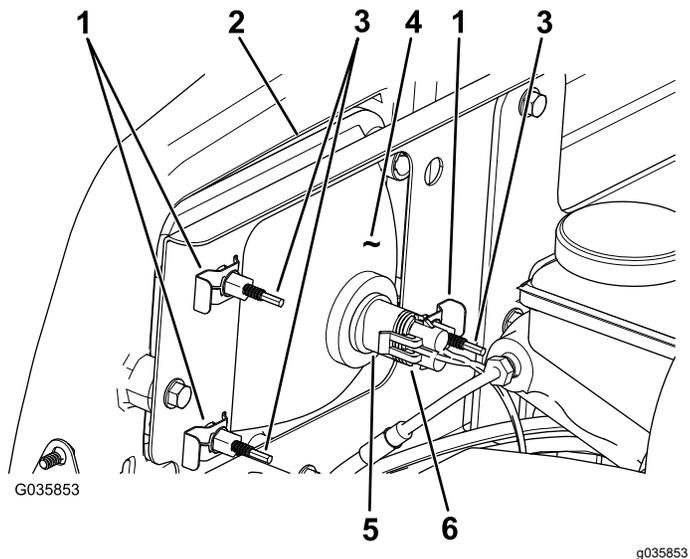

Figure 53
3. Disconnect the electrical connector for the harness from the connector of the lamp assembly (Figure 53).
4. Remove the speed clips that secure the headlight to the headlight bracket (Figure 53).
5. Remove the headlight assembly by moving it forward through the opening in the front bumper (Figure 53).
6. Install the new headlight through the opening in the bumper (Figure 53).
8. Connect the electrical connector for the harness to the connector of the lamp assembly (Figure 53).
2. At the back of the headlight assembly, rotate adjustment screws (Figure 53) to pivot the headlight assembly and align the position of the cast beam.